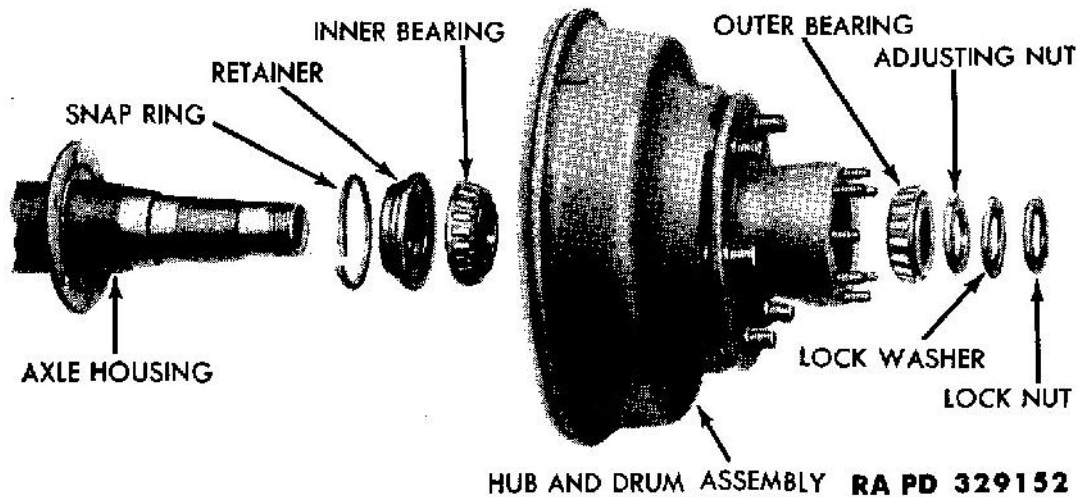

Figure 68 — Rear Wheel Bearings and Hub — Disassembled
b. **Rear Wheel Bearings (figs. 68).**